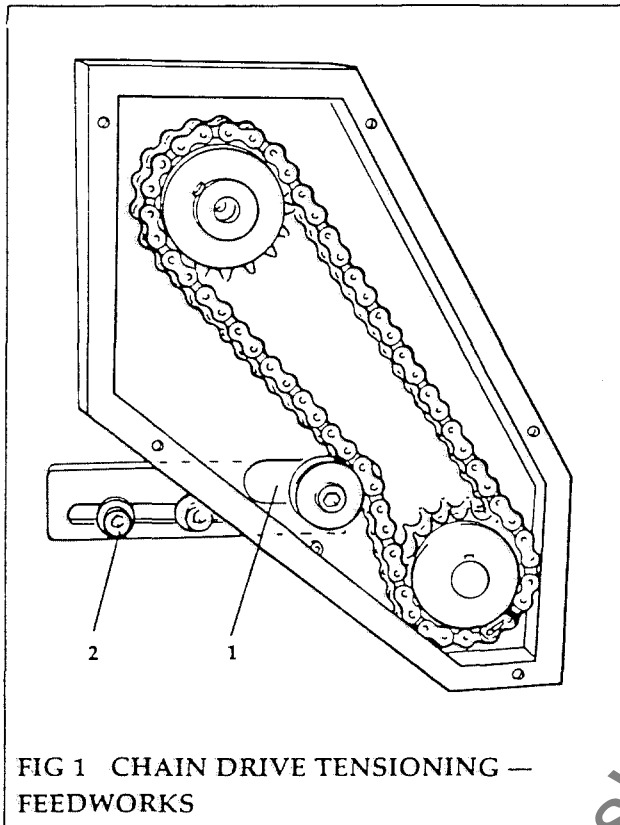

FIG 1 CHAIN DRIVE TENSIONING — FEEDWORKS
Chain Drive Tensioning (Fig.1, Fig.2)
- (1) Remove the drive cover.
- (2) Check chain for adjustment or wear. Adjustment is correct if no slack is present in the chain.
- (3) To adjust: Reposition the chain tensioner arm (1), by slackening the two securing screws (2) and sliding the arm with roller or sprocket toward the chain. Take up any slack in the chain. Retighten screws (2) after adjustment, (see Fig 1).